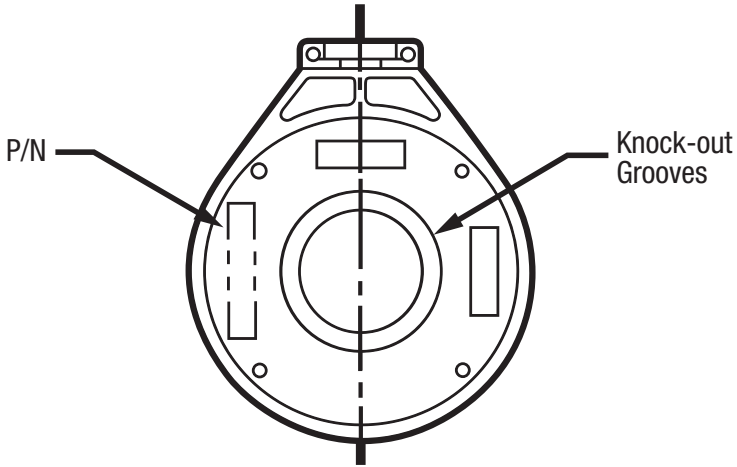

Figure 2
1. One or more groove guides can be found on the inside face of the end cover. These will conform to shaft diameters equal to or greater than bearing bore sizes for that particular series. Prior to mounting, use a utility knife to score bottom of groove from inside of end cover to a diameter consistent with your shaft size (Figure 2).